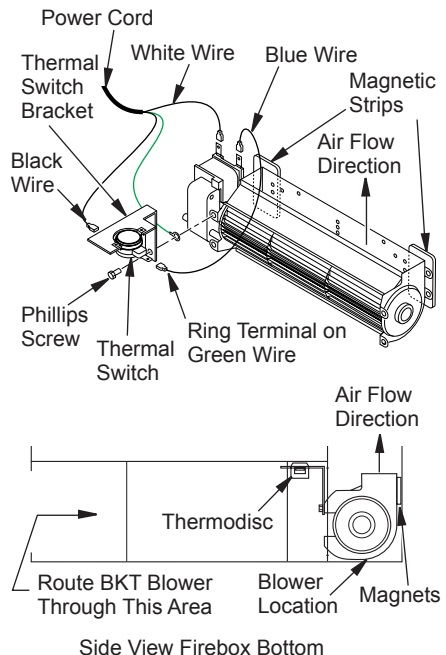

Figure 30 - Blower Model BKT
1. Place the green ground wire with ring terminal between the bottom hole on the thermal switch bracket and the top ear hole on the blower assembly. Insert the phillips screw into all three pieces and tighten securely (see Figure 30).
3. Place the blower against the lower rear wall of the firebox outer wrapper with the exhaust port directed upward and the thermodisc positioned up near the fireplace bottom. The thermodisc must be oriented near the fireplace bottom as shown in Figure 30, page 20, in order to sense temperature and properly operate. The blower will be held in position against the back wall by the magnets incorporated onto the blower housing (see Figure 30, page 20).